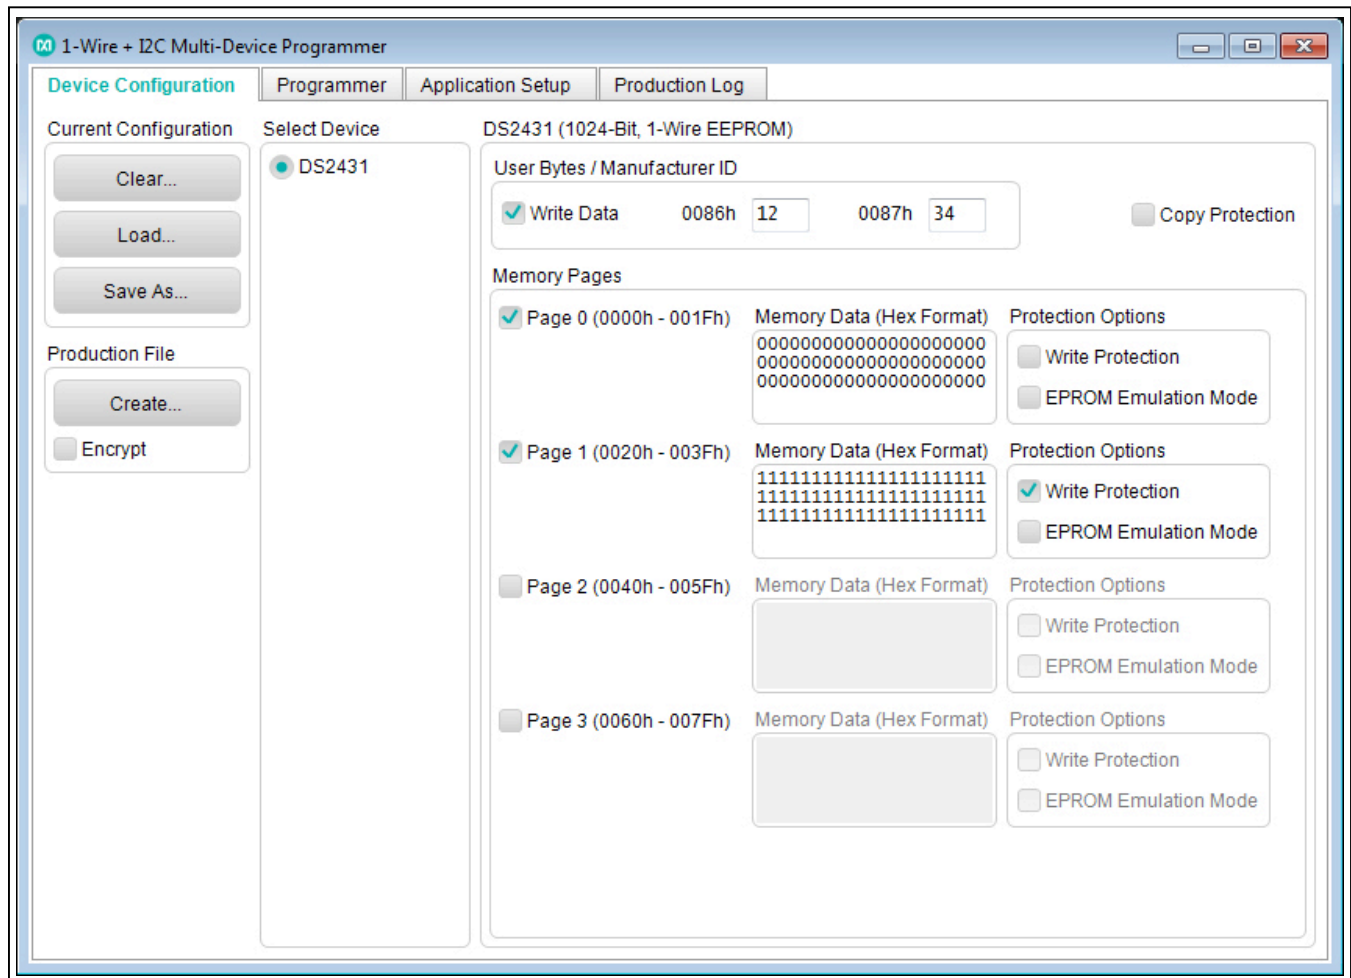

Figure 3. Device Configuration
- 1) Navigate to the **Device Configuration** tab, shown in Figure 3.